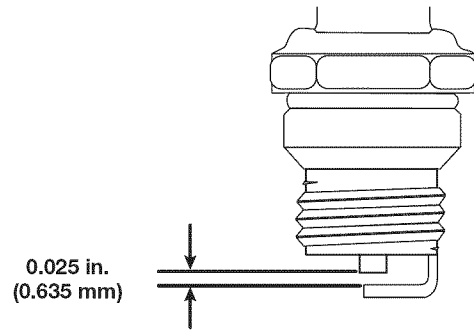

Fig. 27
6. Use a feeler gauge to set the air gap at **0.025 in. (0.635 mm)** (Fig. 27).